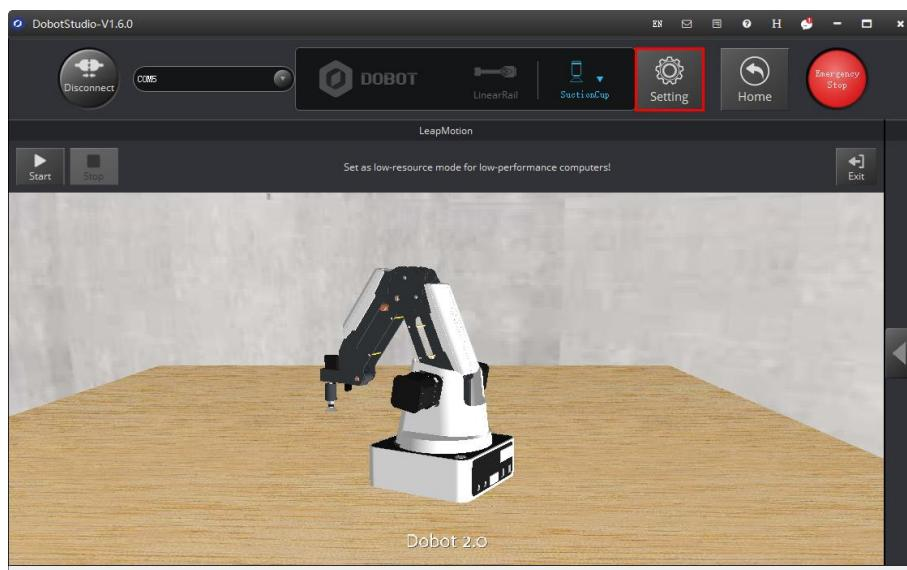

Figure 5.108 Click Setting
Step 3 Click **Setting** on the **DobtStudio** page, as shown in Figure 5.108.